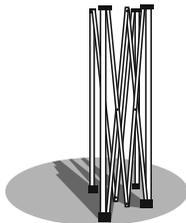

Fig. 2A
- 2 Place the canopy in the desired location **(Fig. 2A)**.